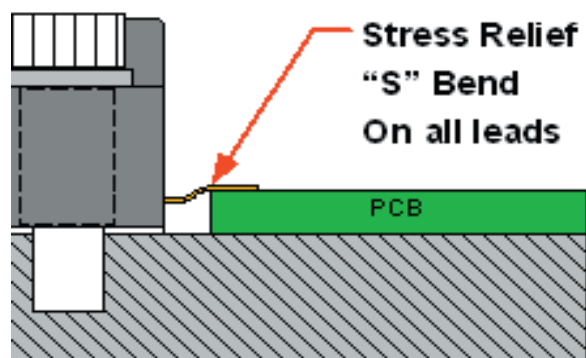

Figure 25, Stress Relief bend
1. The leads should be prepared with an "s" bend, as shown in Figure 25 prior to mounting on the heat sink.